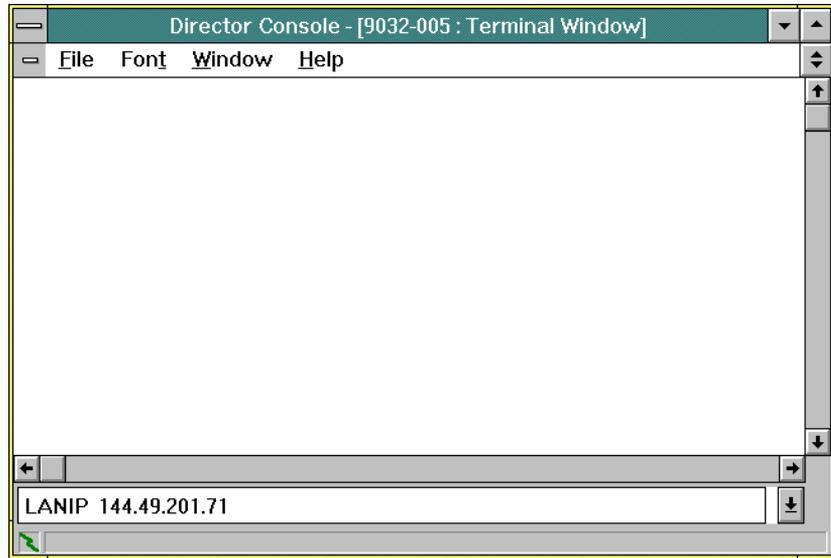

Figure 188. Terminal Window
5. Type a maintenance authorization password (default is **LEVEL002**) and click the *OK* button. The *Terminal* window appears (Figure 188).